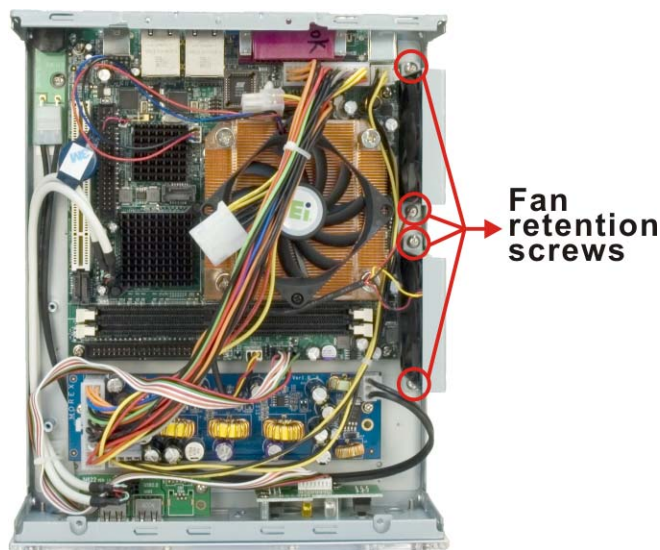

Figure 7-6: Cooling Fan Retention Screws on the System
Step 4: Remove the four cooling fan retention screws from the system (**Figure 7-6**).